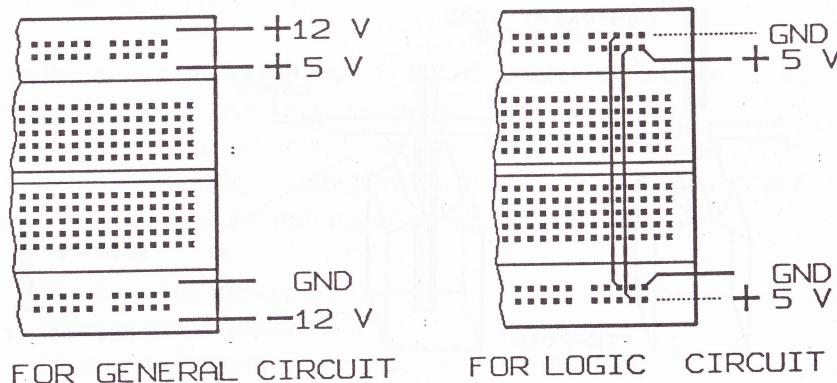

Figure 14 : Power bus convention
The upper two rows and the lower two rows of a breadboard are meant to carry the power supply for noise-free distribution to various parts of the circuit. They should never be used to carry any signal. The convention of feeding powerlines to these are shown in figure 14.
- Make Power Bus connections as described earlier (Fig. 14)
Make power-bus connection for logic circuits (as in figure 14)